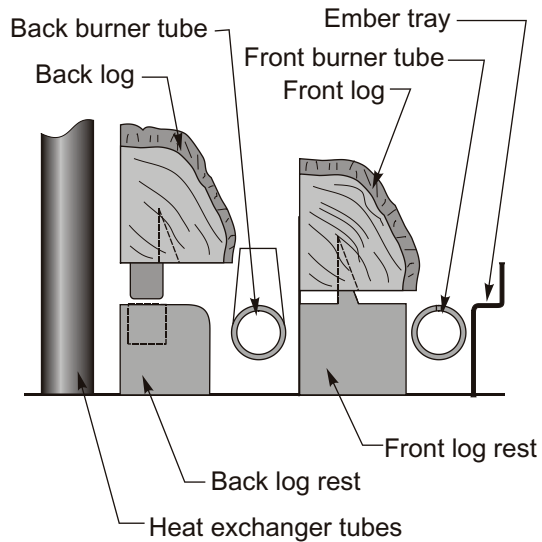

Figure 12. Positioning for the top logs ('C' and 'D').
3. Place the Back log onto the back log rest as shown below in figure 12. The log has lip on the bottom which fits into the slot on the log rest.
4. Place the Front log onto the front log rest as shown in figure 12. Center the log from side to side, and push it against the back of the log rest. Carefully push the log onto the metal spikes on the log rest.